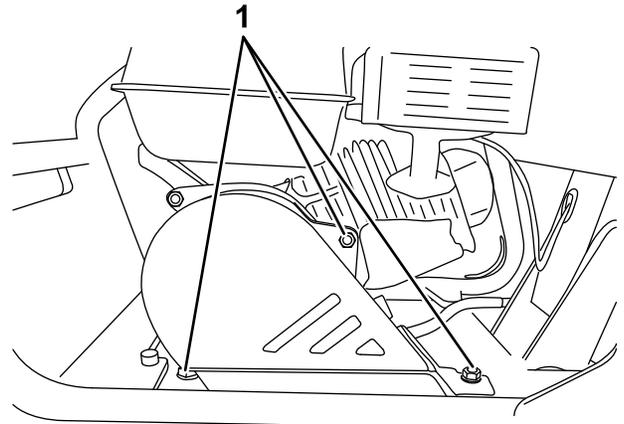

Figure 23
1. Remove the bolts holding the belt cover in place (Figure 23).